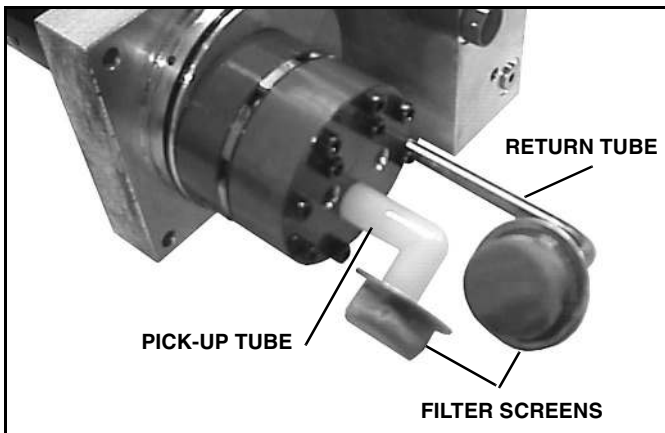

Figure 1-40
8. Loosen the band clamp, which holds the reservoir on the center section. Pull and twist the reservoir until it separates from the center section. Place a container under the power unit to catch spilled oil. Note the position of the reservoir oil pick-up tube and be sure the tube is in the same position when the filter is removed and installed. (See Figure 1-40).
10. Pull the filter screens off the return and suction tubes (hold it by the metal cover, not by the screen) and clean with a suitable solvent. Blow dry with low pressure compressed air from the inside. (See Figure 1-40).